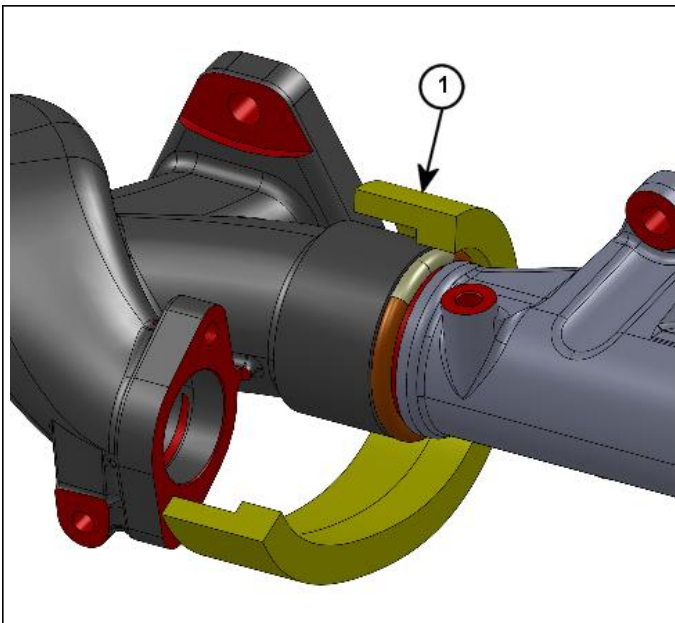

Figure 2 - Installing the ceramic wrap seal
**Step 2: Installing the ceramic wrap seal assy.** (Figure 2 & 3)